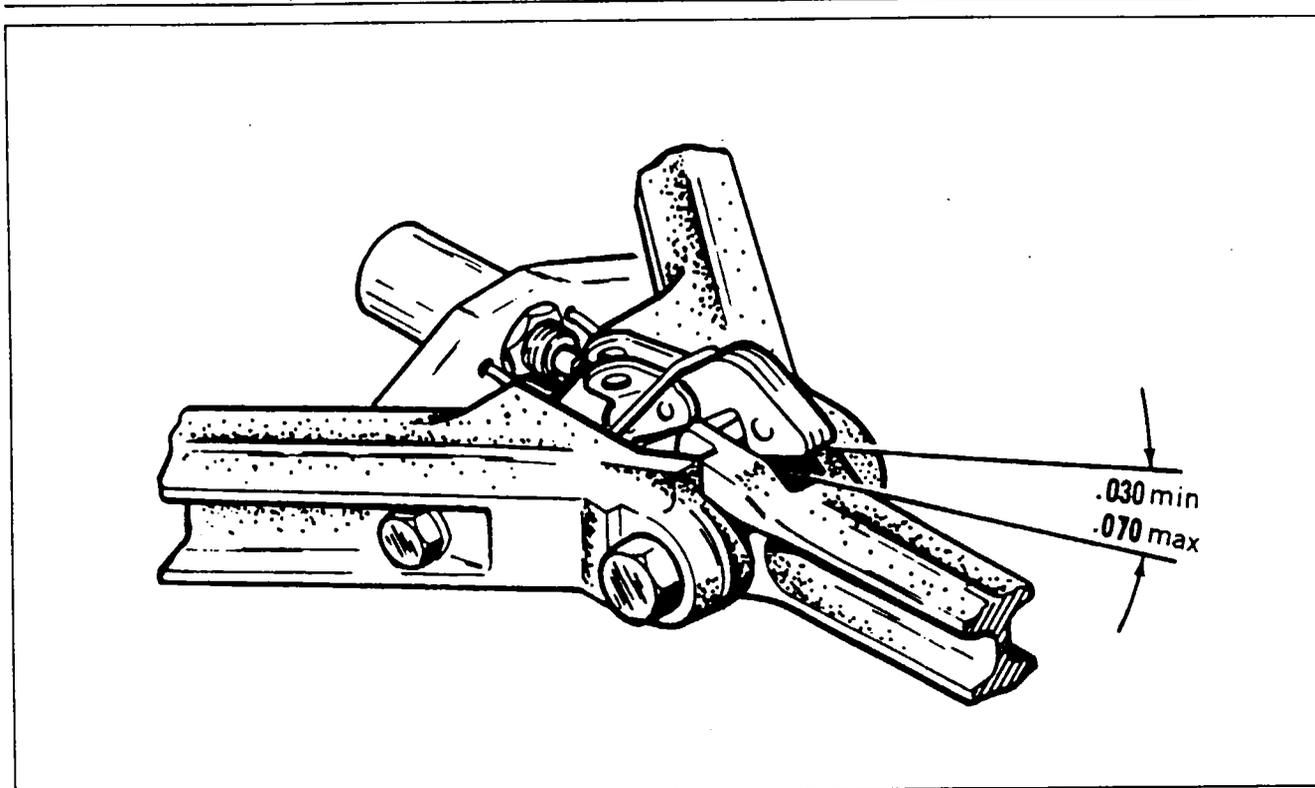

Figure 32-26. Adjusting Main Gear Down Limit Switch
**ADJUSTMENT OF MAIN GEAR DOWN LIMIT SWITCH. (Refer to Figure 32-26.)**
- B. With hook raised, place a .070 of an inch wire feeler gauge between the hook and bottom surface of the slot in the side brace link. (Refer to Figure 32-26.)